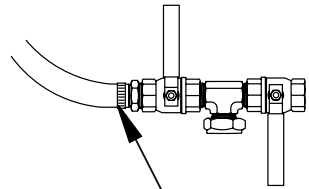

Fig. 13
8. Using a screw or nut driver, loosen the hose clamp (Fig. 13). Carefully remove the hose and lower it allowing residual water to drain.